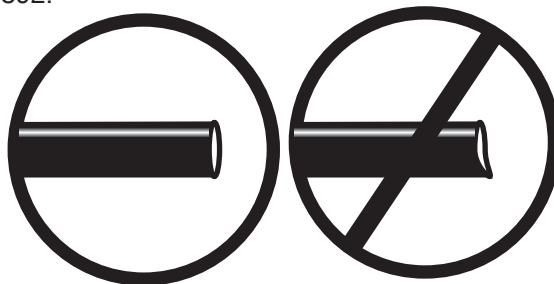

fig. 19
- a. Check the air line connection by deflating the spring and removing the line by pulling the collar against the fitting and pulling firmly on the air line. Trim 1" off the end of the air line. Be sure the cut is clean and square (see fig. 19). Reinsert the air line into the push-to-connect fitting.
2. If the preceding steps have not resolved the problem, call Air Lift customer service at (800) 248-0892.